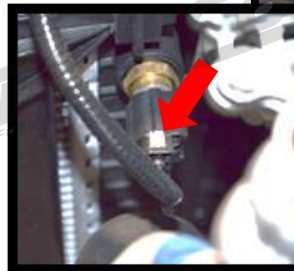

Figure 1j
- n) **Unplug the electrical connection** to the radiator temp sensor. (located above the lower radiator hose on the passenger side of the radiator in **Figure 1j**).
n) **Unplug the electrical connection to the radiator temp sensor.** (located above the lower radiator hose on the passenger side of the radiator) (red arrow in Figure 1j).